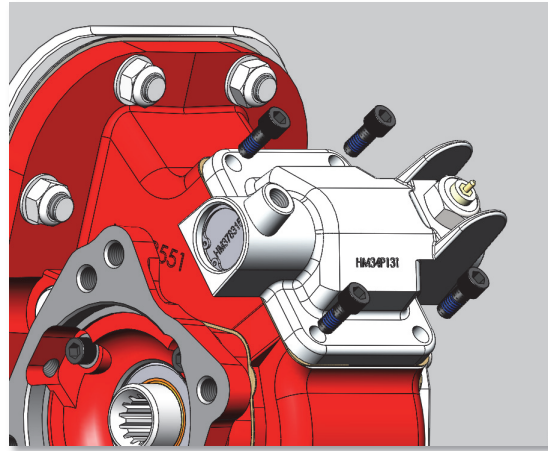

Fig. 11
4. Apply a drop of Loctite 290 on each cover bolt. Install bolts (Fig. 11).